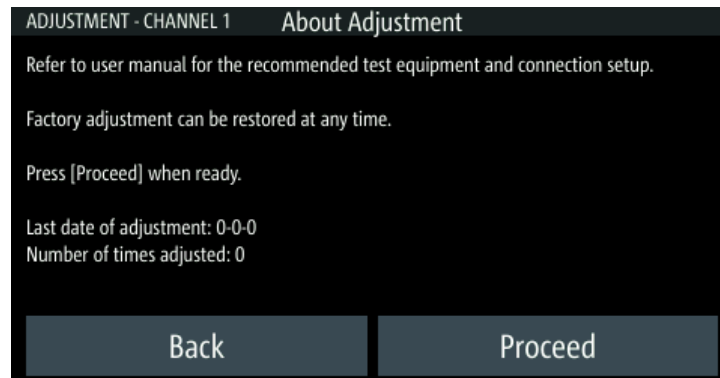

Figure 5-37: Channel adjustment wizard
3. Select "Yes" to continue the channel adjustment procedures. Select "No" to return to the channel adjustment wizard, see Figure 5-37.